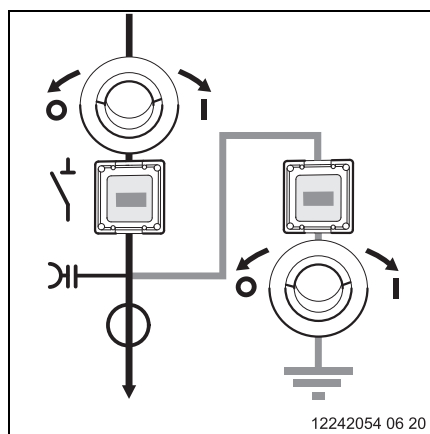

Fig. 46
**4** Switch position with deactivated disconnecter and deactivated earthing switch (Fig. 46),